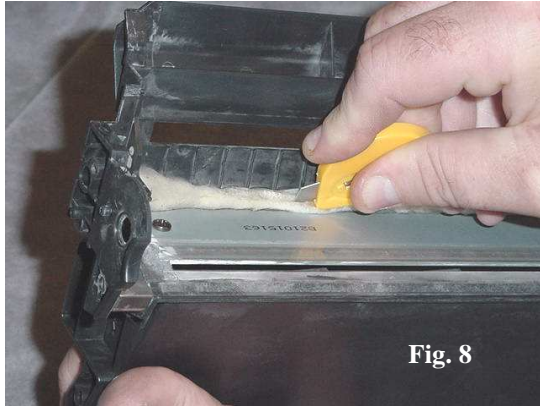

Fig. 8
8. The OEM wiper blade has a spray on type foam along the back edge to prevent leaking from the waste bin. Using a razor knife, score the foam separating it from the metal stamping of the blade. (Fig. 8)